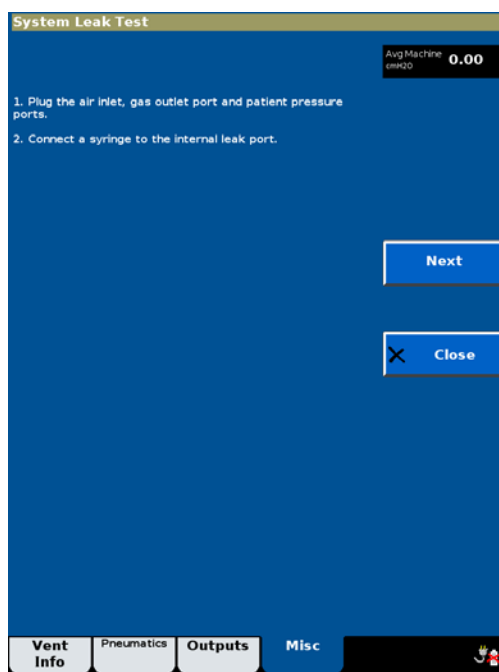

Figure 8-13: System Leak Test Screen
- $\frac{9}{16}$  -  $\frac{3}{4}$  in. tapered plug (2)
4. Touch **Service, Misc**, then touch **System Leak Test** and follow the onscreen prompts (Figure 8-13).